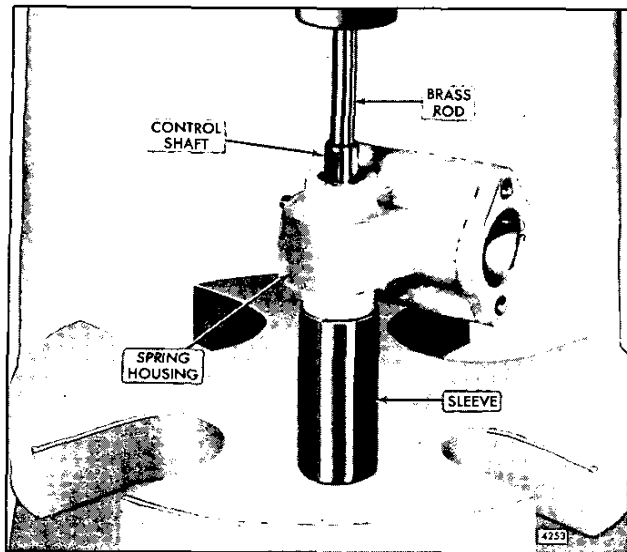

Fig. 5 - Removing Speed Control Shaft, Bearing and Cup Plug from Governor Spring Housing
- e. Place a small brass rod on the end of the shaft and under the ram of the press as shown in Fig. 5 and press the plug and bearing out of the spring housing.